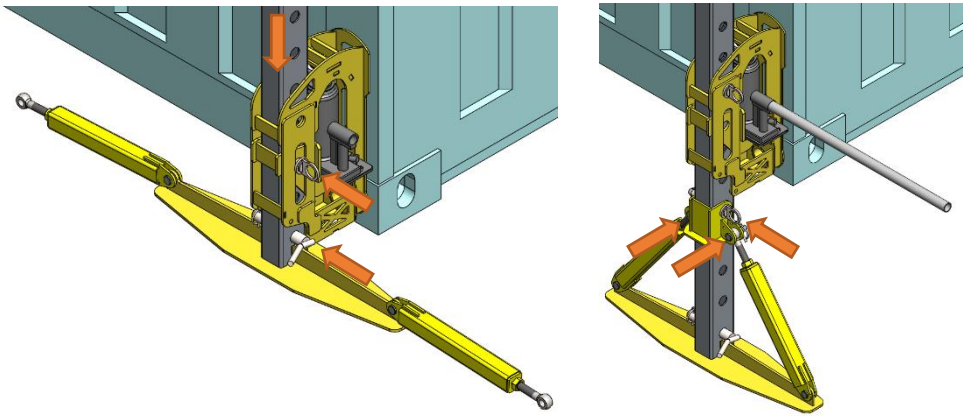

Figure 3 Mounting of climber unit, support leg assembly, lower main tube, support leg bracket and side supports.
3. Insert lower main tube through the climber unit to the support leg assembly and fasten with a main locking pin (**Figure 3**)
4. Insert support leg bracket to the lower main tube and fasten with a locking pin through the fifth hole from bottom, see **Figure 3**. If container is on the ground perform steps 6 to 11 to lift the container high enough to install support leg bracket
5. Attach support leg assembly eye bolts to the support leg bracket with locking pins (**Figure 3**). If needed adjust eye bolt length by rotating them
6. Insert upper main tube to the lower main tube (**Figure 3**)